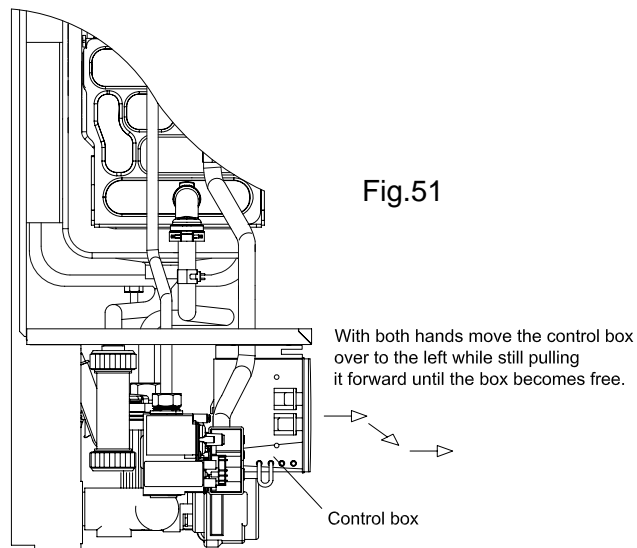

Fig.51
8.23 TO REMOVE PANEL CONTROL BOX (Fig. 51,52,53).